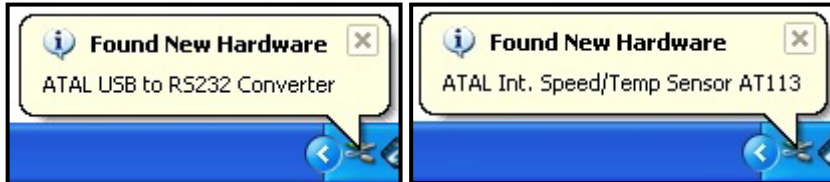

Fig. 58 – Examples of info tips about the detection of a new device (Windows XP)
After you have successfully installed **any program from the Multi-Diag family** and you then connect **any USB device from the ATAL company** to your computer, information about new hardware (HW) will appear in the form of a Windows “Info tip” (see Fig. 58).
3. The device should be detected, see Fig. 58.